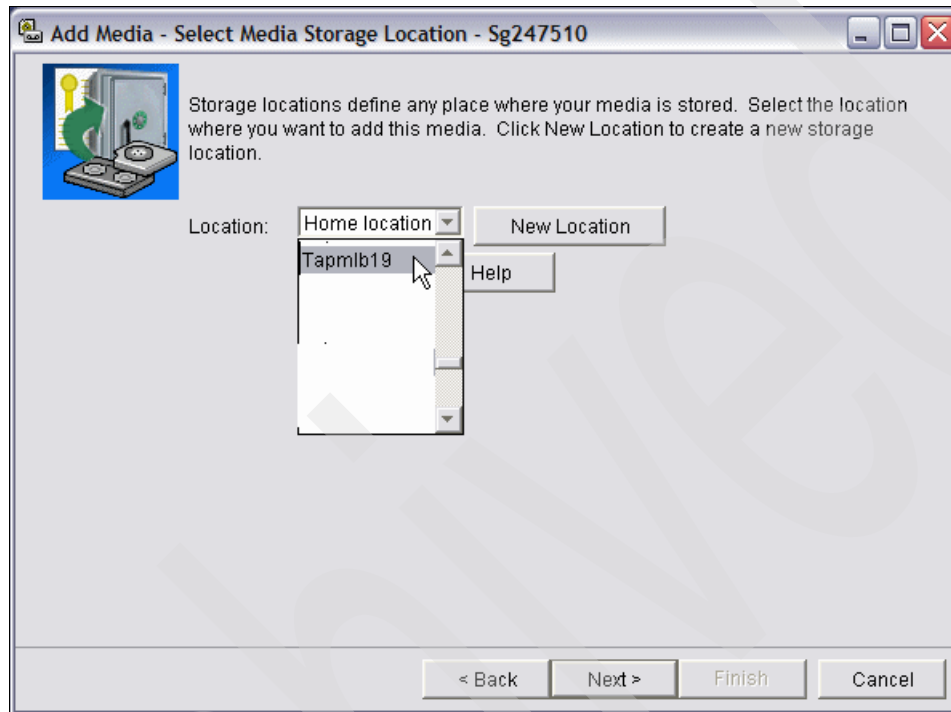

Figure 6-38 Add Media - Select Storage Media Location
7. In the next window (Figure 6-38), we must select an existing location or define a new location to which the virtual the tape volumes should be added to. Select the down arrow for Location and BRMS displays any tape libraries it has already sensed. You can refer to the sections starting from 6.2.1, “Identifying virtual devices to BRMS” on page 132, to see where location (tape library) Tapmb19 was identified.